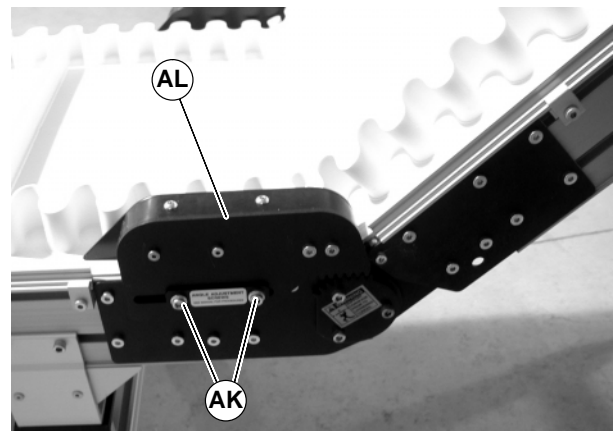

Figure 24
- If equipped, remove screws (AK of Figure 24) and remove lower knuckle return roller assembly (AL) on both sides of conveyor, note the position of the meshing teeth.